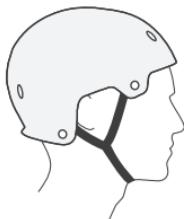
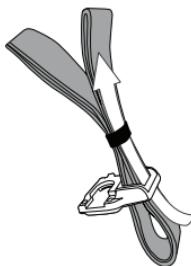

Figure 8.
Figure 9.
The helmet is designed to be retained by a strap under the lower jaw. The two straps hanging from the right strap adjustor that go under the lower jaw are collectively called the chinstrap (Figure 8). Make sure the chinstrap is correctly threaded through the right buckle (Figure 9).
- The chinstrap should be located as shown in Figure 8 and should fit snugly against the bottom of your chin. If not, re-adjust.
4. To keep the chinstrap from flapping, tuck it through the rubber O-ring (Figure 9).